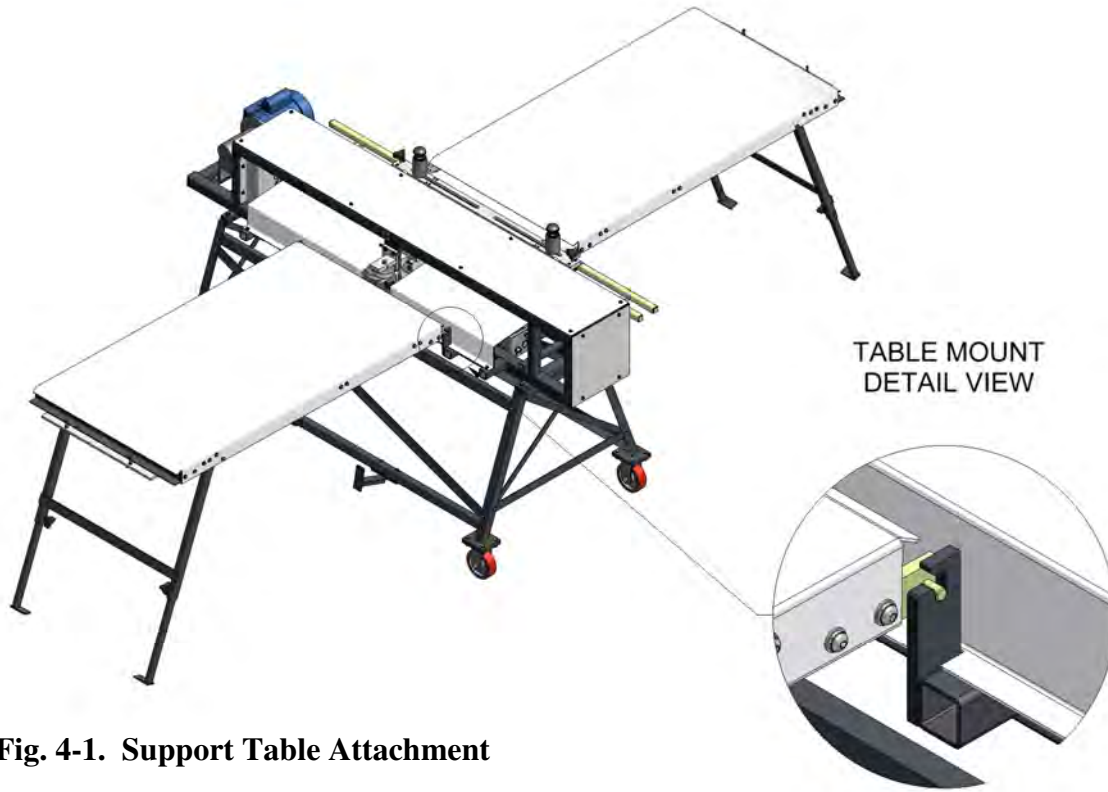

Fig. 4-1. Support Table Attachment
2. Insert the table mounting pins into the notches on the machine, as shown in **Fig. 4-1**.